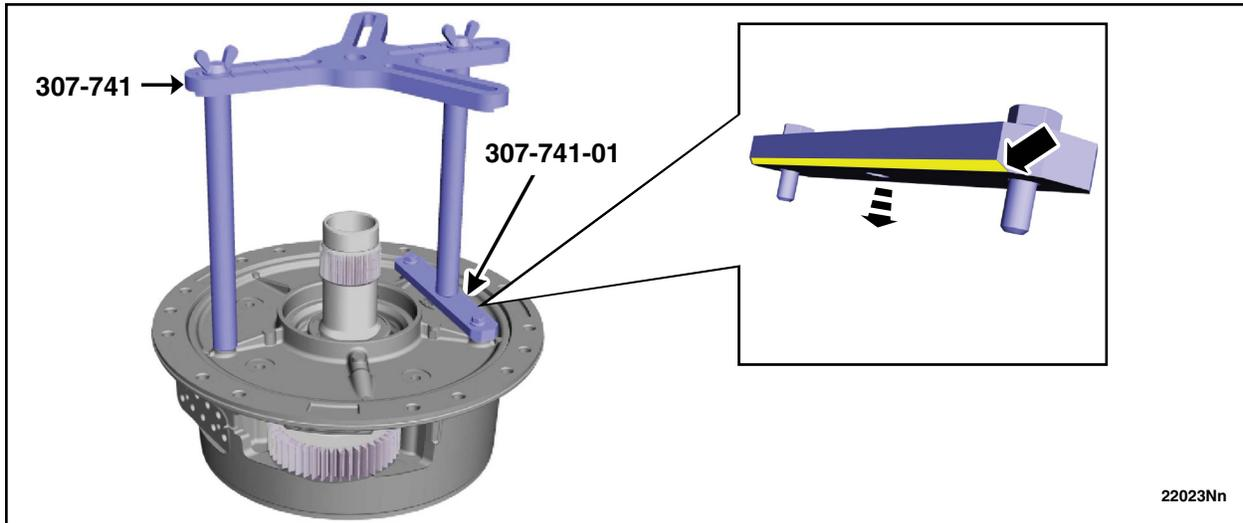

FIGURE 49
58. Install the Special Service Tool: 307-741 Spring Compressor, F Clutch. , 307-741-01 Remover, Front Support & Cover on the front support assembly with the beveled side down. See Figure 49.